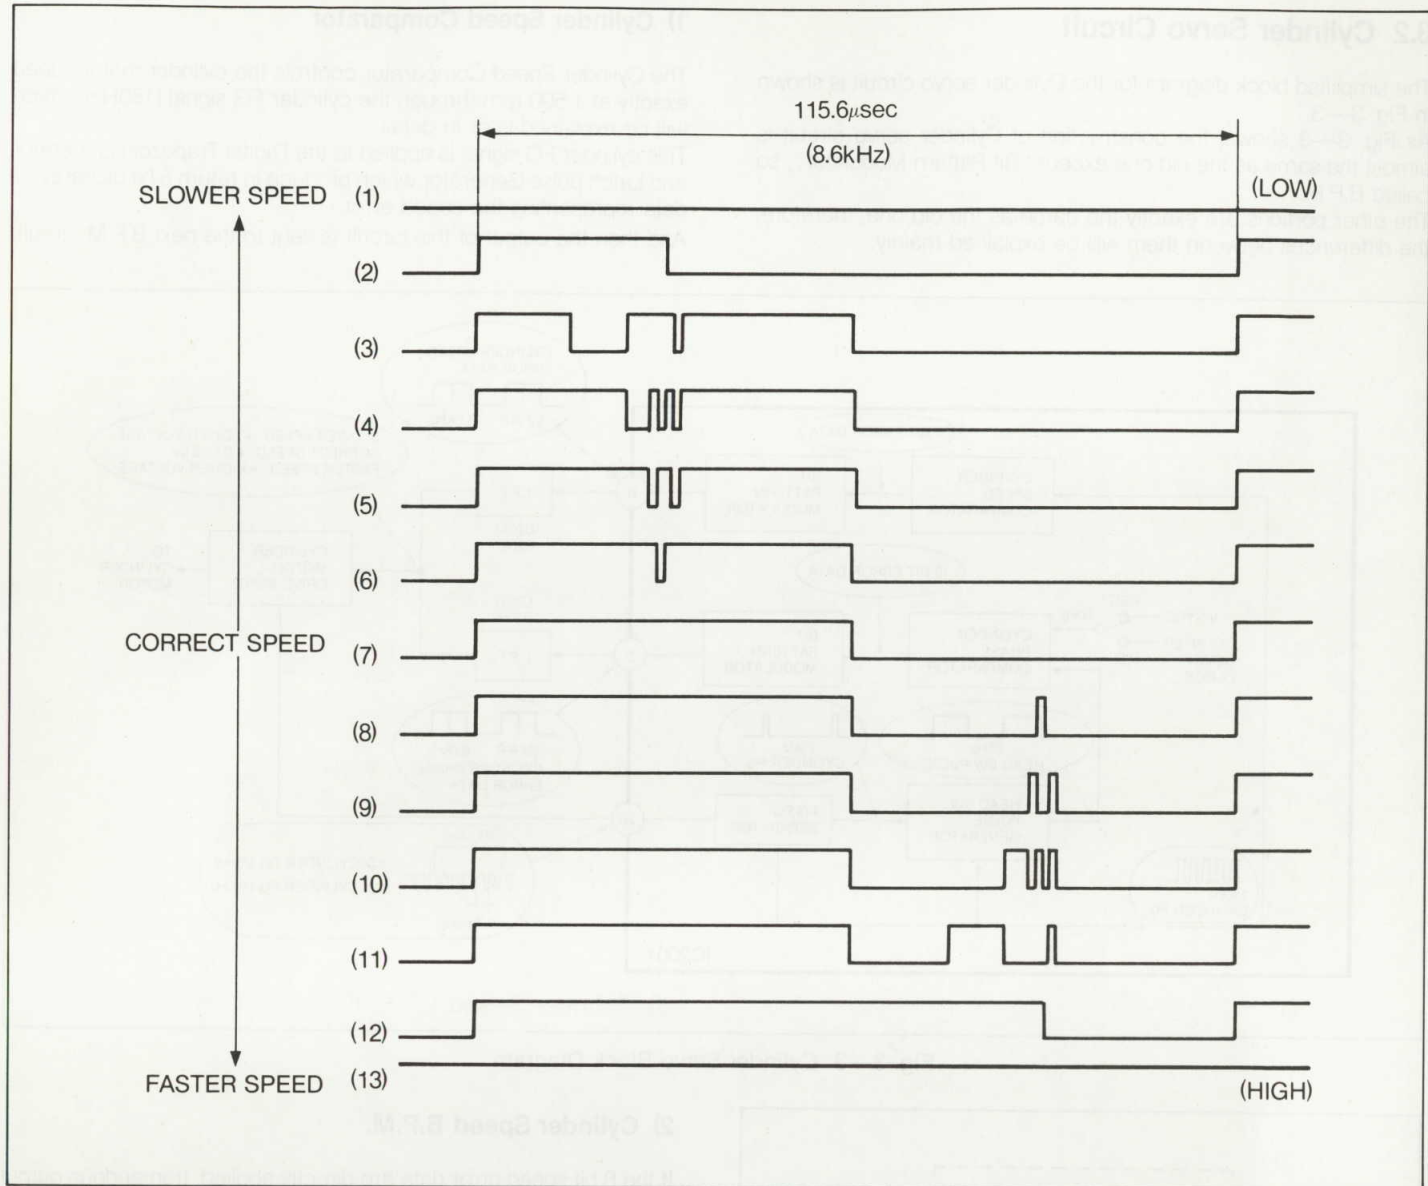

Fig. 3—5 Bit Pattern Modulator Error Data
If the cylinder motor speed decreases, the cylinder FG signal frequency is also dropped down slightly and this causes the change of digital speed error data. By this error data, B.P.M produces the appropriate square waveform (shown on the waveform (2) ~ (6) in Fig. 3—5.) which corresponds to the speed. When the cylinder motor speed decreases slightly, the center of high portion only drops for a very short time as shown on the waveform (5) or (6) in Fig. 3—5. The shorter the cylinder speed the shorter the period of the high portion.
On the other hand, a faster cylinder motor speed results in the small positive pulses during the low period in the output of B.R.M. This is shown in the waveform (8) ~ (12) in Fig. 3—5. The higher the cylinder speed, the shorter the period of the low portion. This specific waveform is produced by comparing the weighting waveforms which are generated inside of the B.P.M and 8 bit error data comes from the cylinder speed comparator.